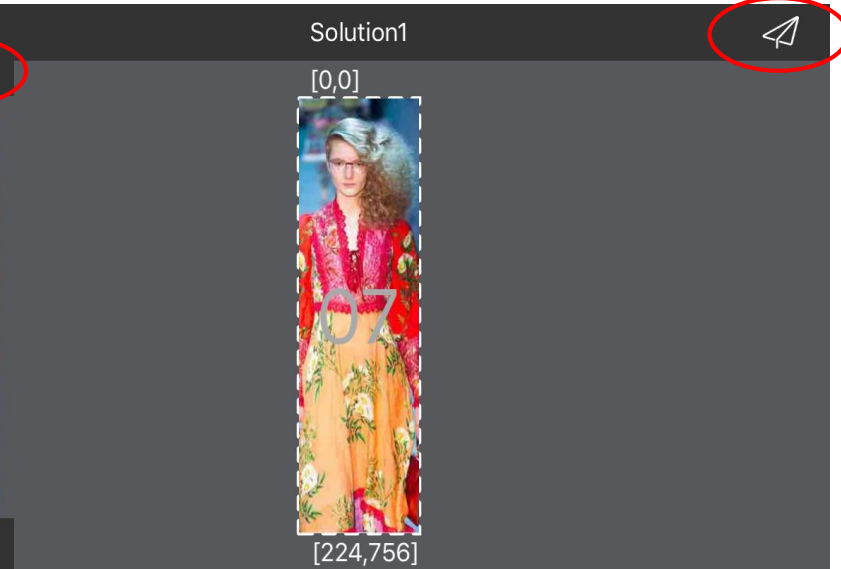

fig 7.19
h. Return to the display window, click  to publish the content, please refer to fig 7.19.